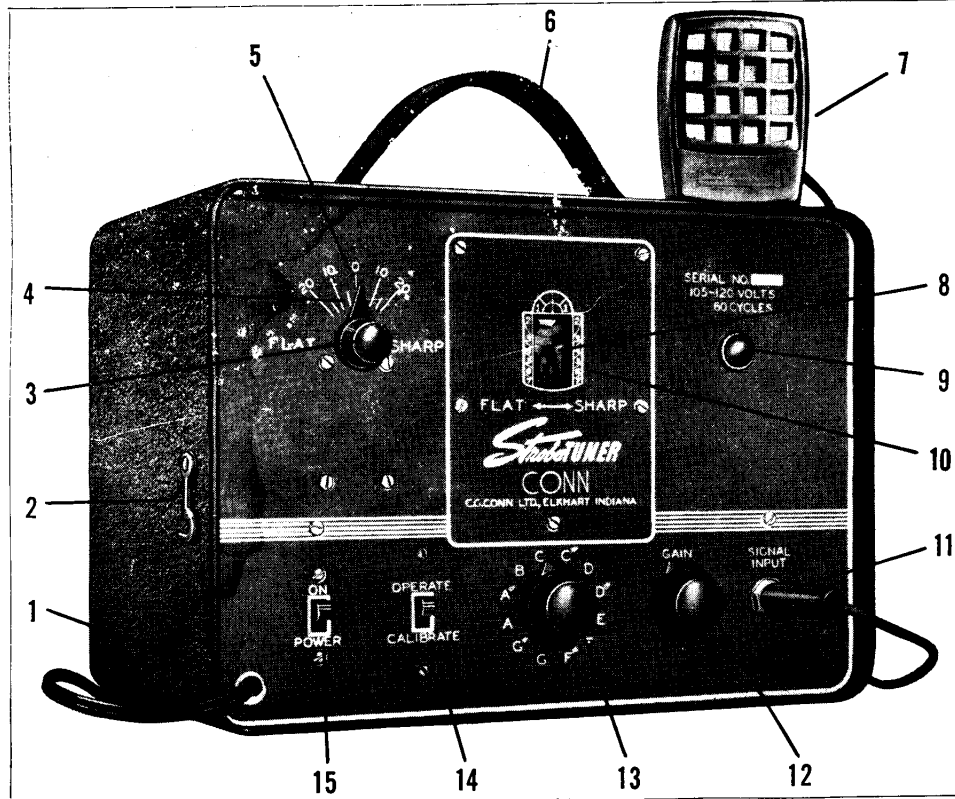

Figure 2—The Complete Strobotuner, Model ST-1
**Description—Detailed**—Referring to the keyed illustration in figure 2, page 6, it will be seen that the Strobotuner has a single viewing window located in the center of the face panel. Behind this window is a stroboscopic disc on which are imprinted seven circular bands consisting of alternating light and dark segments. Each of these bands represents an octave, the smallest band near the hub of the disc representing the first octave, and progressing to the outer-most band which represents the seventh octave. A